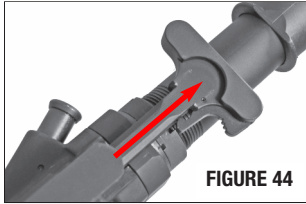

FIGURE 44
- Pull charging handle to rear and push in lower portion of bolt catch to hold bolt open (from either side of the rifle) (FIGURES 44 and 45).